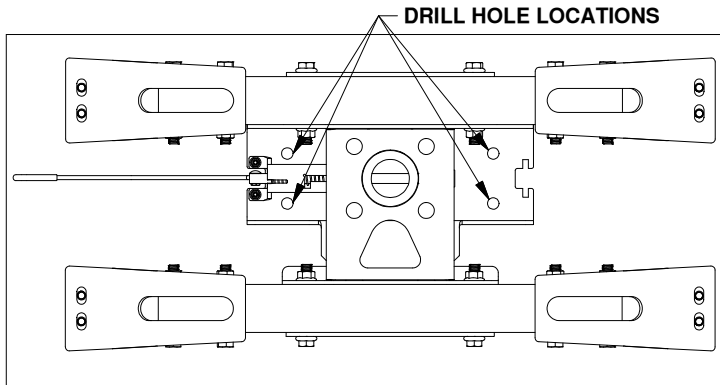

Figure H1: View of center section assembled.
1. **Drill the holes.** To install the safety chain brackets, it is necessary to drill four 11/16" holes through the truck bed floor. Drill the holes so that they match up with the two sets of holes on each side of the center, see Figure H1. This may be done by drilling the 11/16" holes from the bottom using the center as a guide, or by drilling a smaller pilot hole from the bottom and drilling the 11/16" holes from the top side of the bed.